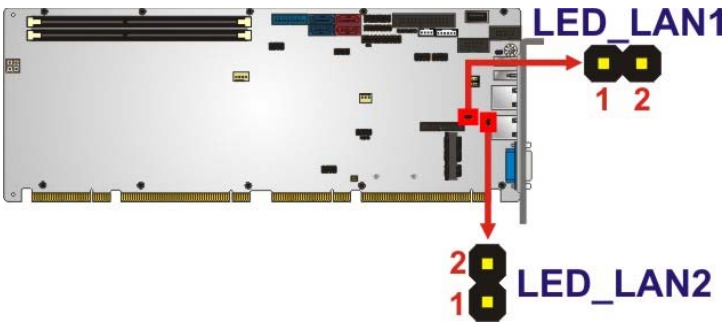

Figure 3-16: LAN LED Connector Locations
- CN Location:** See Figure 3-16